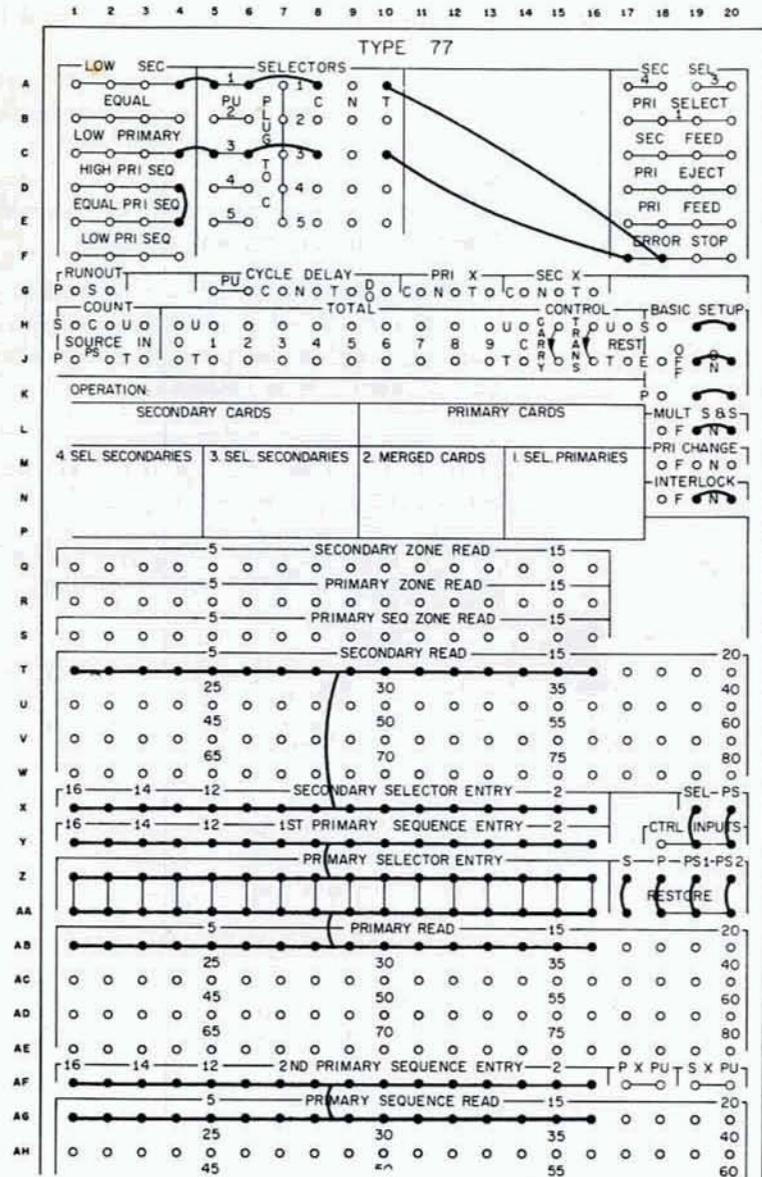

FIGURE 7
**Control-Panel Wiring (Figure 7)** HIGH PRIMARY SEQUENCE and EQUAL PRIMARY SEQUENCE are connected together to force the effect of a high-primary sequence reading, and cause the secondary feed to operate continuously.